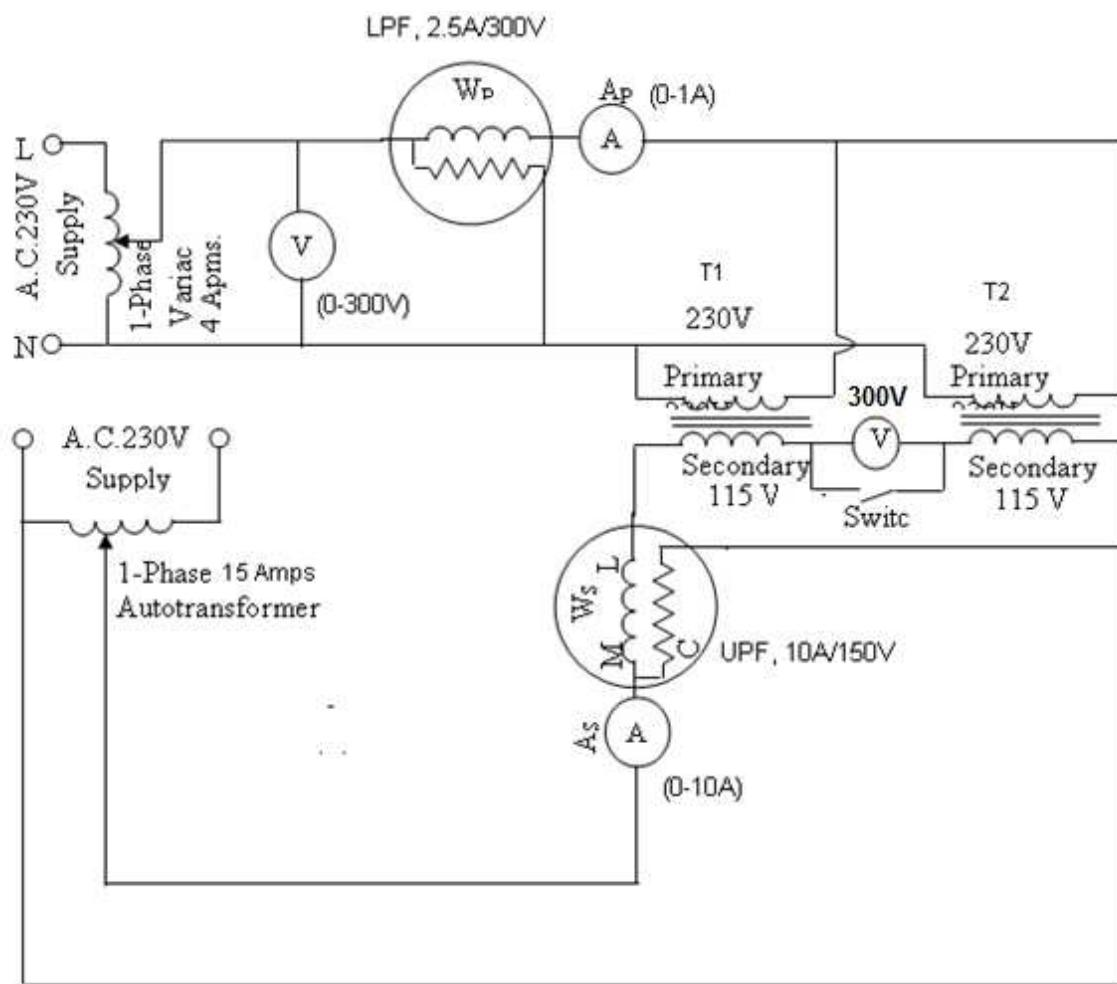

FIG 1.1 Circuit diagram for Sumpner's test.
Two identical transformers are used in this test. The primaries are connected to the supply. The secondaries are connected together such that the voltage in the loop formed by the secondaries is zero, i.e., the voltages are in phase opposition in the loop. Under this condition, the power taken from the mains equals the sum of the iron losses taking place in the two transformers. If an auxiliary voltage source is now introduced in the loop formed by the secondary windings, it essentially sees a short circuit in the primary winding circuit. As such, a small voltage of this source can be made to circulate short circuit currents through the primary and secondary windings of the two transformers equal to their full load currents. The power delivered by this auxiliary source is essentially equal to the copper losses in the windings of the transformers. The auxiliary voltage source is in the form of a booster transformer. See Fig. 1.1 for details. Since the transformers are identical, we can determine the iron and full load copper losses in each transformer from the readings of the total iron and copper losses. The main advantage of this test is that the power required for operation at any load is only equal to the losses. So, without much expenditure in energy, we can operate the transformers such that the iron and full load copper losses take place in them, and run them in this condition for a long enough time to determine the temperature rise under steady state condition. Such tests are called 'heat run' tests. They are extremely important since power ratings of transformers (for that matter, of any electrical power equipment), are decided by their temperature rise.
2. Calculate the ranges of the meters required and get these approved. Make the connections as given in Fig. 1.1 and get them checked.
3. Connect the 4 amp variac (connected in primary of transformers) to single phase supply and increase the voltage from zero to the rated voltage of primary of transformers. If the voltmeter (connected in the circuit of the secondary windings of the test transformers), indicates double of secondary voltage i.e., if emfs are additive in the loop, switch off the supply and interchange any one of the secondary windings and again see the voltage. Now if the voltmeter indicates zero, the secondaries are connected back to back. Short circuit the voltmeter by closing the switch, as shown in Fig. 1.1.
4. Connect the supply to the 15 amps variac (connected in secondary side of transformers) as shown in Fig. 1.1 Increase the voltage (start from zero) of the secondary side of transformers through the variac gradually **then the current in the secondaries of the test transformers will vary. Take the meter readings and record them in table for 60%, 80%, 100% and 110% of the rated current of the transformers under test.**